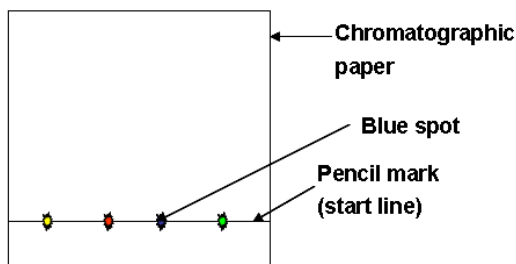

Fig. 1
7. Using the capillary tubes/toothpick spot a small amount of each sample along the line drawn on the paper as shown in Figure 1. (four colours –four spots on the paper)